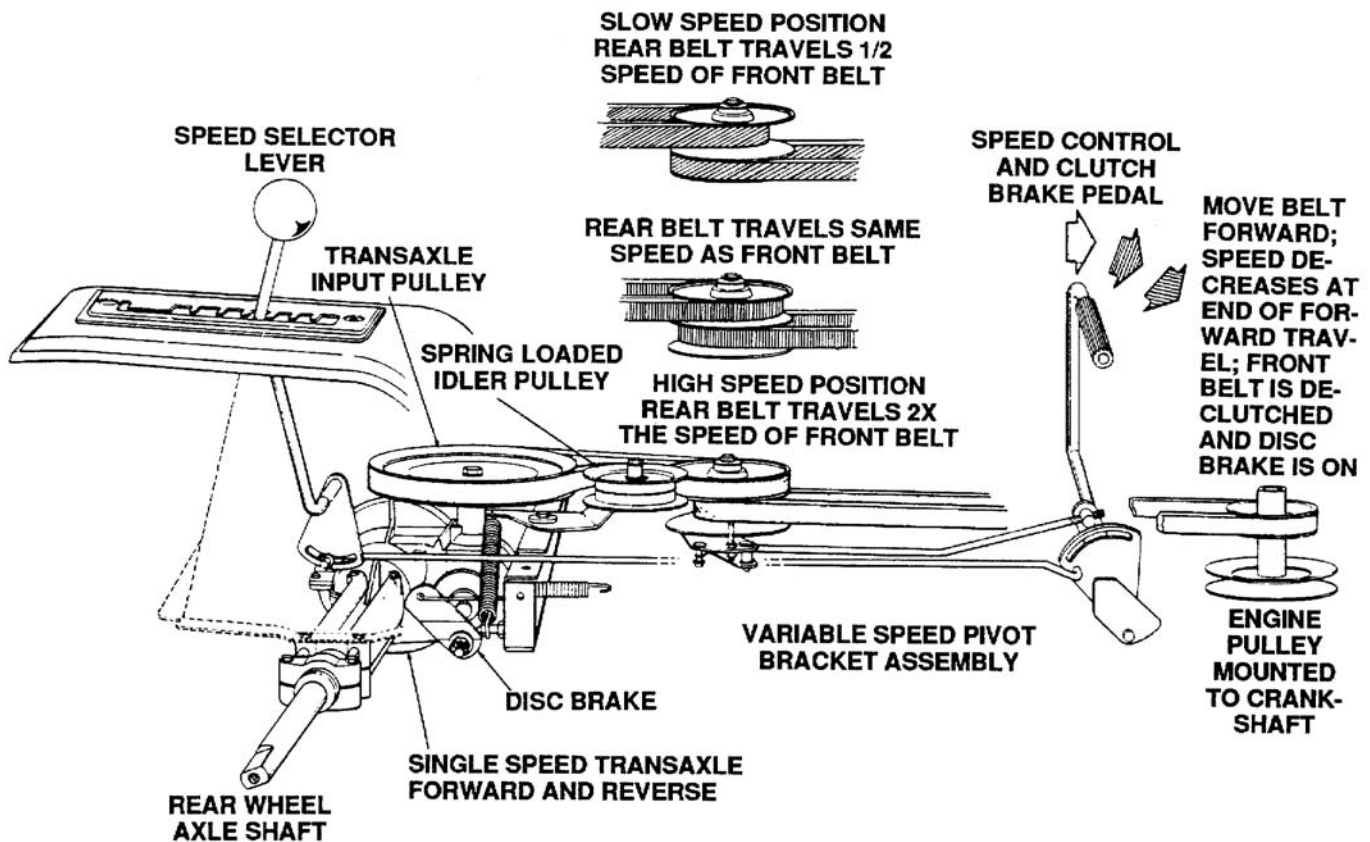

Figure 4-8. Variable Drive System
- 4-7.1 The variable speed pulley can best be described as a torque converter. It is used on some riding mowers, rotary tillers and tractors. The variable speed pulley allows you to vary the ground speed (or the tiller speed) while maintaining a constant engine speed. We use a smaller one on the riders and the larger one on the tractor and rear tine tiller. Coupling the transaxle with the variable drive system you have the ultimate drive train. With this total drive system you can set the speed selector for a given speed, then slow down for a turn (cutting around trees or flower beds), by pushing in on the clutch/brake pedal. Release the pedal and the tractor automatically resumes the set speed. This type of drive system permits no-clutch-on-the-go speed control and enables you to match your ground speed to your mowing conditions without slowing the RPM's of the cutting blade. See Figure 4-8.